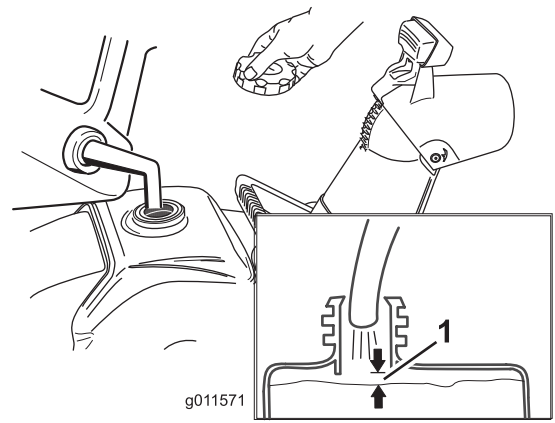

Figure 13
1. Ensure that the fuel tank is not overfilled (refer to Figure 13) and that the fuel cap is securely in place.